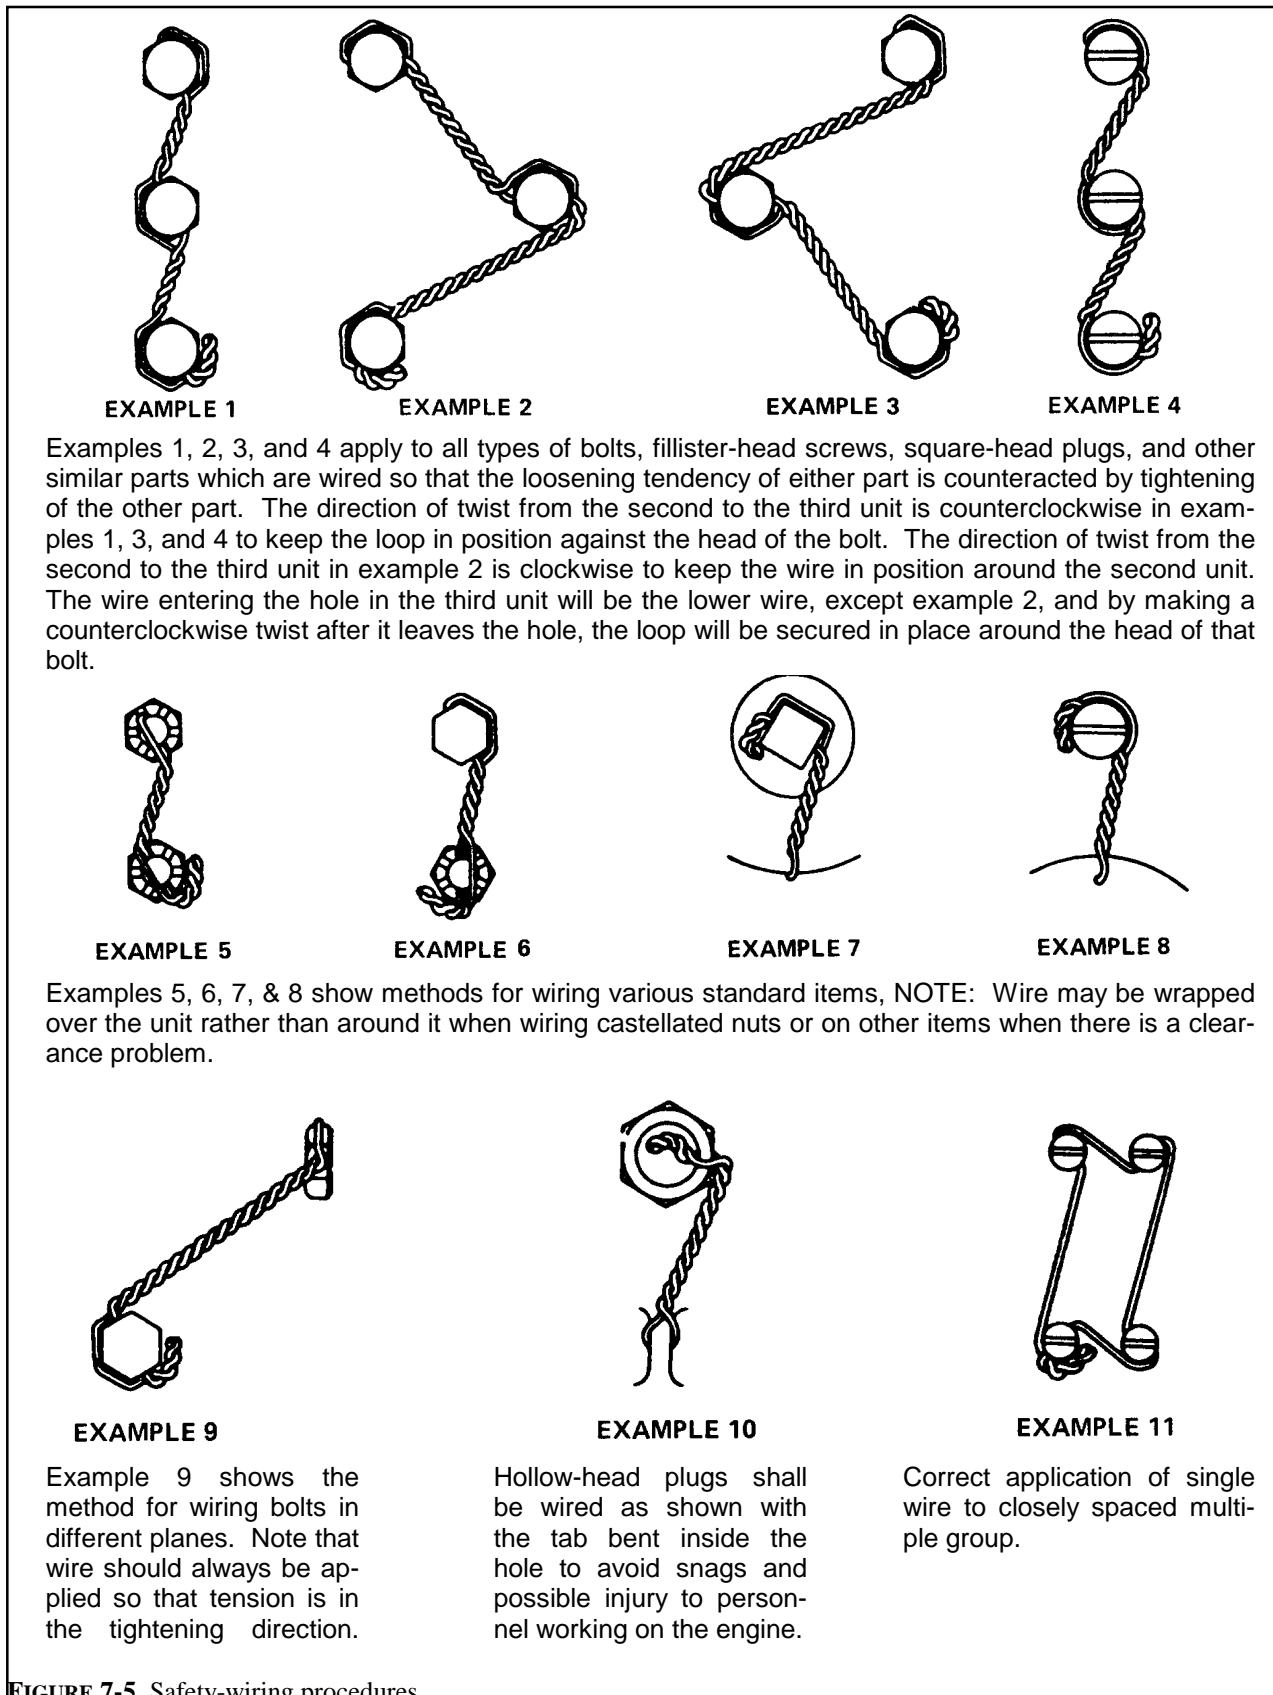

FIGURE 7-5. Safety-wiring procedures.
**NOTE: Although there are numerous safety wiring techniques used to secure aircraft hardware, practically all are derived from the basic examples shown in figures 7-5 through 7-5b.**